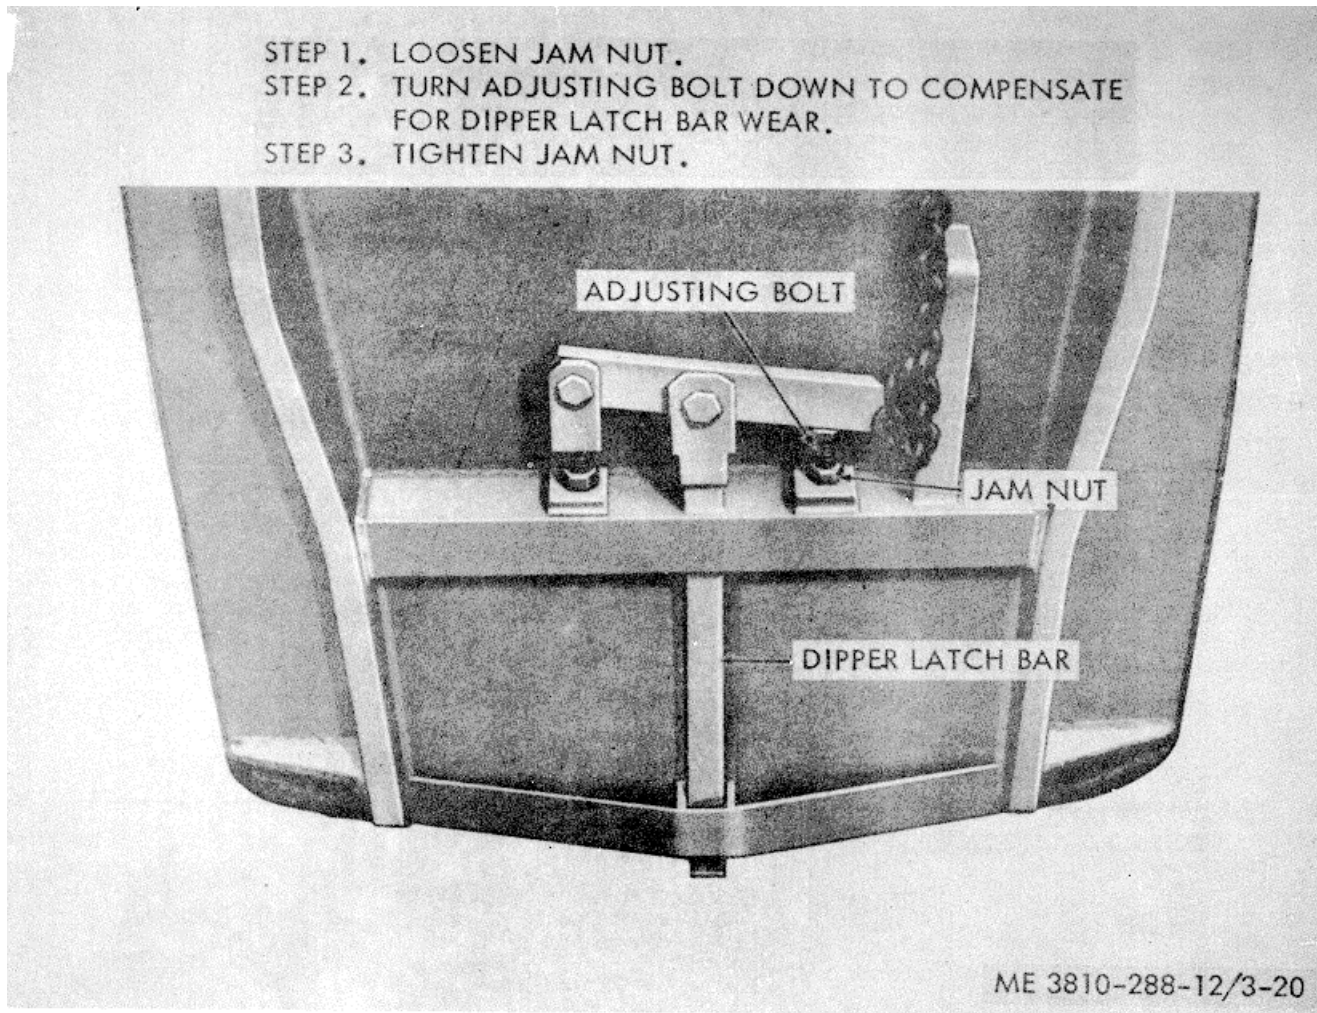

Figure 3-20. Dipper latch bar adjustment.
(7) *Dipper latch bar adjustment.* The dipper latch bar must be adjusted to move forward into the opening in the dipper latch as latch bar wear occurs. Refer to figure 3-20 and adjust the dipper latch bar.